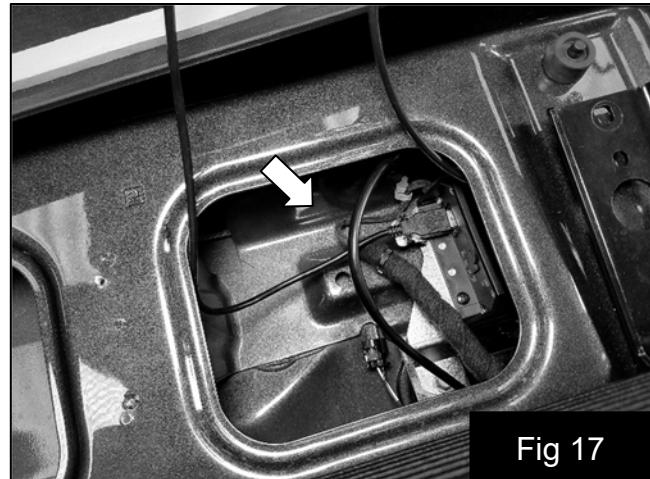

Fig 17
27. Secure extra controller cable with wire ties. Fig 17